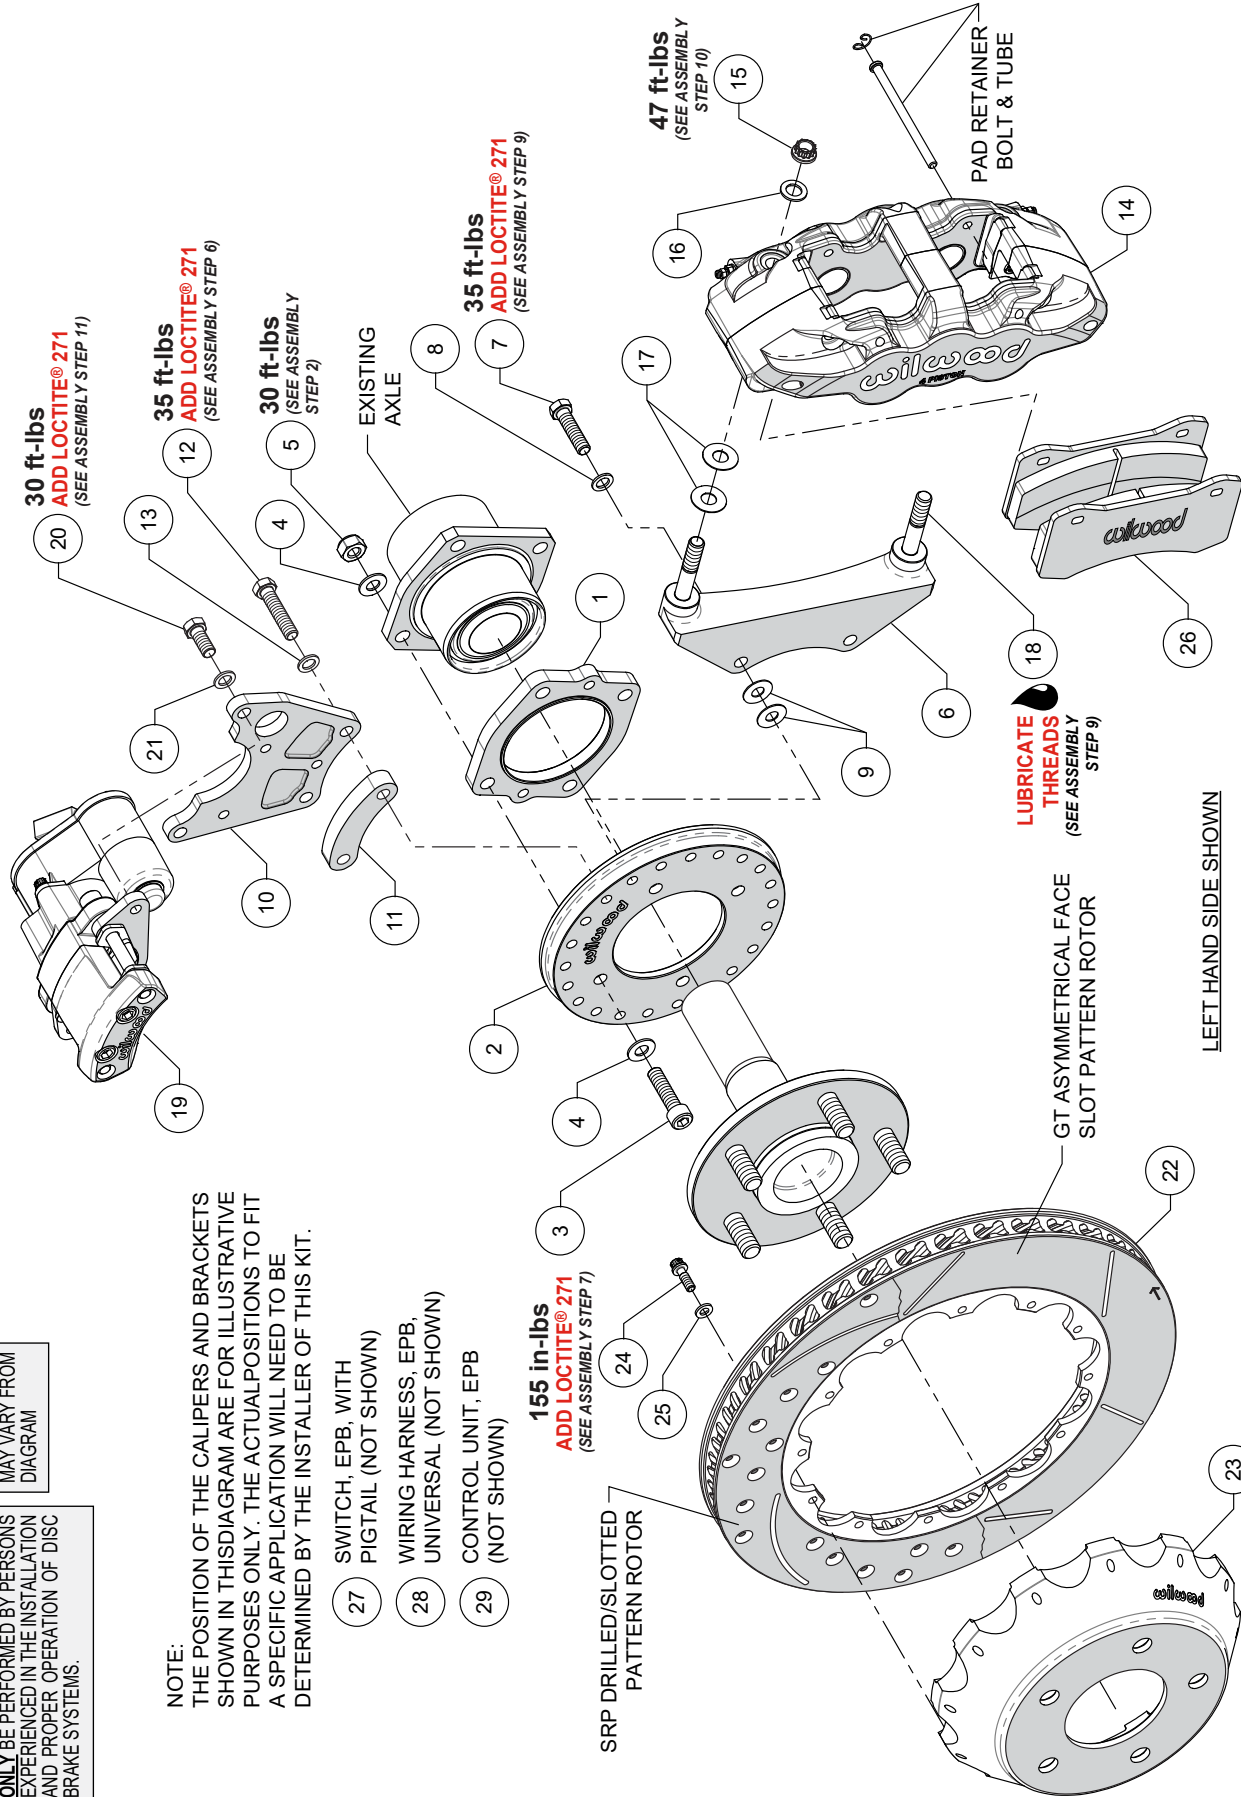
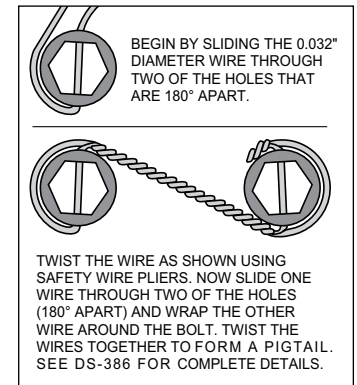

Figure 1. Typical Installation Configuration
Figure 4
NOTE: Numbers in parenthesis refer to the parts list and Figure 1 on the preceding pages.
STEP 1 Slide the backing plate spacer (1) onto the axle housing as shown in Figure 1 and Photo 1. **NOTE:** Ensure the spacer fits flush against the axle flange.
STEP 2 Orient the backing plate (2) as shown in Figure 1 and Photo 2 and mount it to the axle housing flange using bolts (3), washers (4), and lock nuts (5). Ensure the backing plate fits flush against the spacer (1). Torque lock nuts (5) to value shown in Figure 1. Reinstall the axle into the axle housing.
STEP 3 Start by determining the best location for the service caliper (14). This caliper is usually mounted in the 3:00 or 9:00 o'clock position, but may be rotated up or down approximately 45 degrees and still allow for proper bleeding, Photo 3. Orient the service caliper bracket (6) as shown in Figure 1 and Photo 4. Install bracket (6) to the backing plate (2) in the desired location using bolts (7), washers (8), and two .035" shims (9) placed between the bracket and backing plate, Figure 1. Temporarily tighten bolts. Next, mount the service caliper to the bracket (6) using lock nuts (15) and washers (16). Temporarily tighten bolts. Check that the caliper (including inlet fitting and hose) has sufficient clearance to all surrounding components through the full suspension travel. Relocate the caliper/bracket on the backing plate as needed to ensure proper clearance is achieved.
STEP 4 Determine the best location for the EPB caliper (19). **NOTE:** The EPB caliper motor extends farther inboard than the service caliper and therefore needs additional consideration when determining a mounting location with sufficient clearance. In the example application shown in Photo 5, the EPB caliper has sufficient inboard clearance to the leaf spring. However, if the EPB caliper were mounted closer to the 12:00 o'clock position, the inner body of the vehicle would hit the caliper during full compression of the suspension.
STEP 5 Orient the EPB caliper bracket (10) as shown in Figure 1. Install to the backing plate (2) in the desired location using bolts
(12), washers (13), and spacer (11), Figure 1 and Photos 6 and 7. Temporarily tighten bolts. **NOTE:** The EPB bracket is reversible. In one direction the bracket will position the EPB caliper closer to the service caliper, and vice versa if reversing the bracket. Next, mount the EPB caliper (19) to the bracket (10) using bolts (20) and washers (21). Temporarily tighten bolts. **NOTE:** EPB calipers are left and right handed, however they can be used on either side of the vehicle to best suit your specific application. Check that the EPB caliper (including wiring harness connector) has sufficient clearance to all surrounding components through the full suspension travel. Relocate the EPB caliper/bracket on the backing plate (2) as needed to ensure proper clearance is achieved.
STEP 6 Once the caliper positions have been determined, remove both the service (14) and EPB (19) calipers, leaving both brackets in place on the backing plate. Remove the EPB bracket bolts (12) one at a time, apply red *Loctite*® 271 to the threads, and torque to value shown in Figure 1.
STEP 7 Orient the rotor (22) and the hat (23) as shown in Figure 1 and Photo 8. Attach rotor to hat using bolts (24) and washers (25). Apply red *Loctite*® 271 to the bolt threads and torque to value shown in Figure 1 using a criss-cross pattern. For an added measure of security, the bolts may be safety wired using standard 0.032 inch diameter stainless steel safety wire as shown in Figure 4. Refer to Wilwood's data sheet DS-386 (available at www.wilwood.com/Pdf/DataSheets/ds386.pdf) for complete safety wire installation instructions.